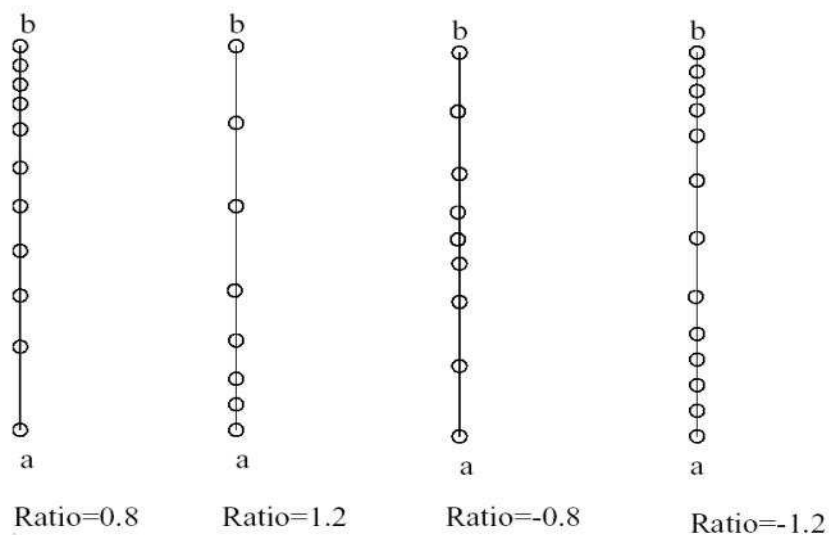

Figure 2.16: Effects of different ratio on putting mesh points on an edge (a b).
- **ratio** is the ratio of the adjacent mesh interval. If it is greater than 1, the mesh interval increases with distance. If it is less than 1, the mesh interval decreases with distance. If it is negative, the mesh obeys the absolute value over the first half of the distance and the other half is symmetric to the first half. A schematic diagram illustrating the effect of various ratios is given in Fig. 2.16.